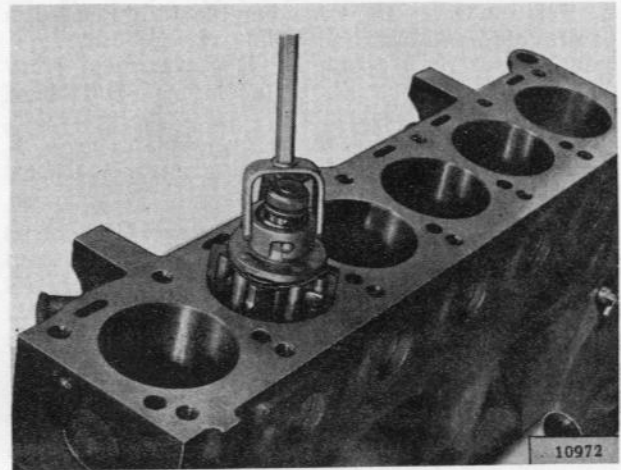

FIG. 88—HONING CYLINDER BORE
b. If bore measurements are within the above limits, but indicate hollows or waviness, cylinders should be honed with 250 grit stones as shown in Fig. 88. Pump hone up and down in cylinder while it is rotating to produce a satin-finish, diamond cross-hatched pattern approximately 30° with horizontal. Hone only enough to correct waviness.